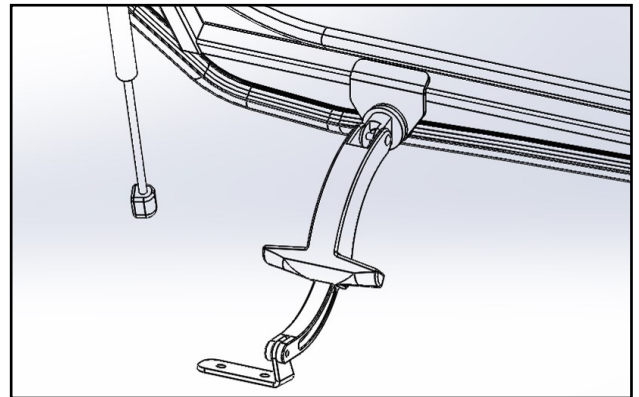

Fig. 10.3 Windshield latch orientation
- 10.3** For a glass windshield, install the latches to the windshield frame, oriented as shown in fig. 10.3.